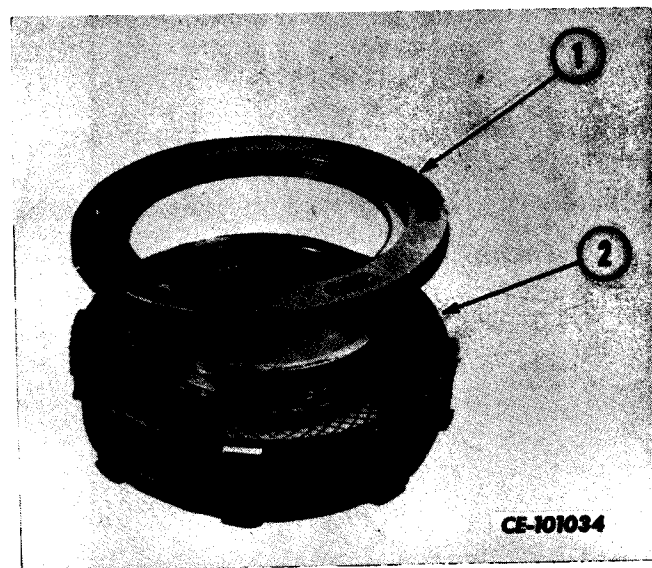

Figure 4-26
Remove backing plate (1, Fig. 4-26) from hub and plate assembly (2).